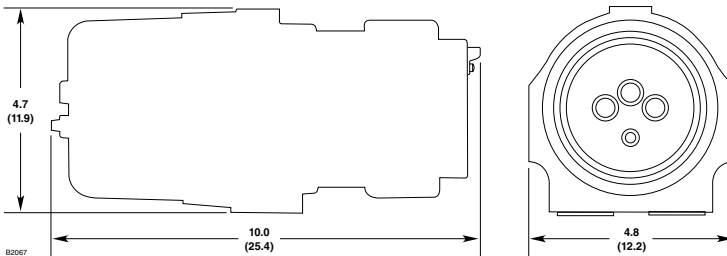

Figure 19—X3301 Dimensions in Inches (cm)
2. Loosen the two captive screws, then grasp the **o_i** reflector plate by the visor and remove it from the detector. See Figure 19.